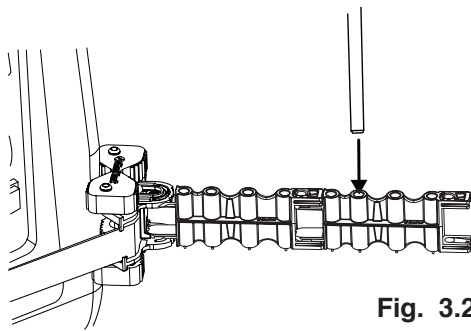

Fig. 3.2
- c. Insert the other end of the frame rod fully into the corresponding Extender Arm hole at the pre-measured locations. (Fig. 3.2)
- f. Check the Extender Arms; the Frame Rods should be fully seated into the Frame Rod holes. (Fig. 3.2) The Extender Arms will exhibit a slight upward lean; this is due to the force being applied to them by the fiberglass rods.